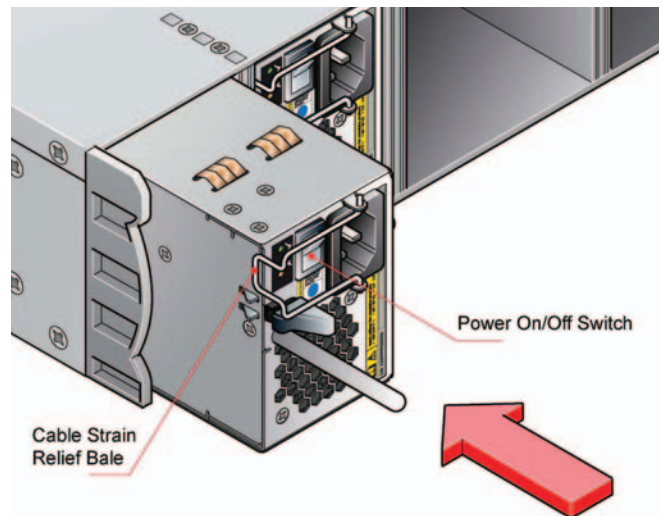

Figure 6: Installing the AC Power Supply Module
2. Slide the PSU into the enclosure (see Figure 6).